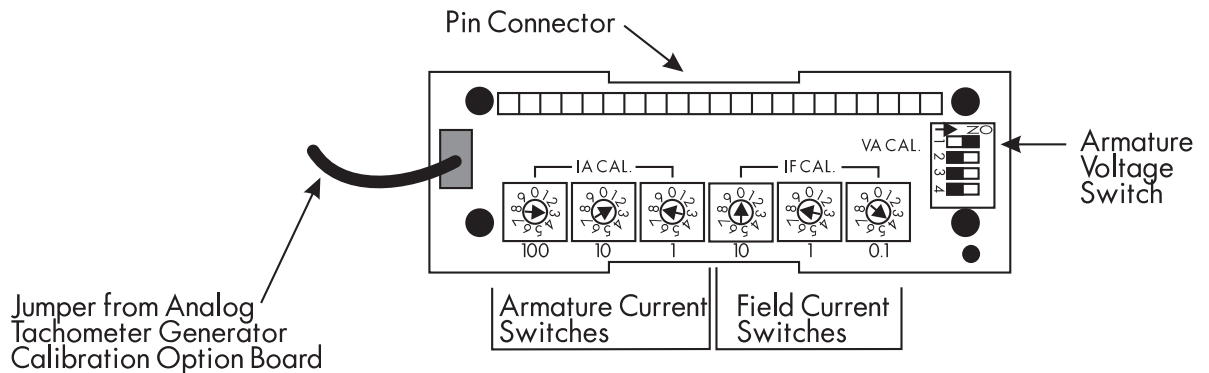

Figure 3.9 - Switchable Calibration Card
The switchable calibration card is shipped on all models rated through 400 HP. The card, shown below in Figure 3.9, calibrates the drive for the motor armature voltage, armature current, and field current.
2. Set the armature current to the motor's nameplate rating minus one (1) amp. Armature current is set in units of amps using the left three rotary switches for hundreds, tens, and ones. The range for these switches is from 1 to 720 amps. Turn the rotary switches to the appropriate settings for your motor. Figure 3.9 is set for a 329 amp motor.
- Set the field current to the motor's nameplate rating. Field current is set in units of amps, using the right three rotary switches for tens, ones, and tenths. As with armature current, the range depends on the type of drive. The overall range is from 0.1 - 19.9A with 590 DRV Digital drive models. Turn the rotary switches to the appropriate setting for your motor. Figure 3.9 is set for a 8.4 amp field. Use SETUP PARAMETERS:: CALIBRATION:: FIELD I CAL in the MMI.